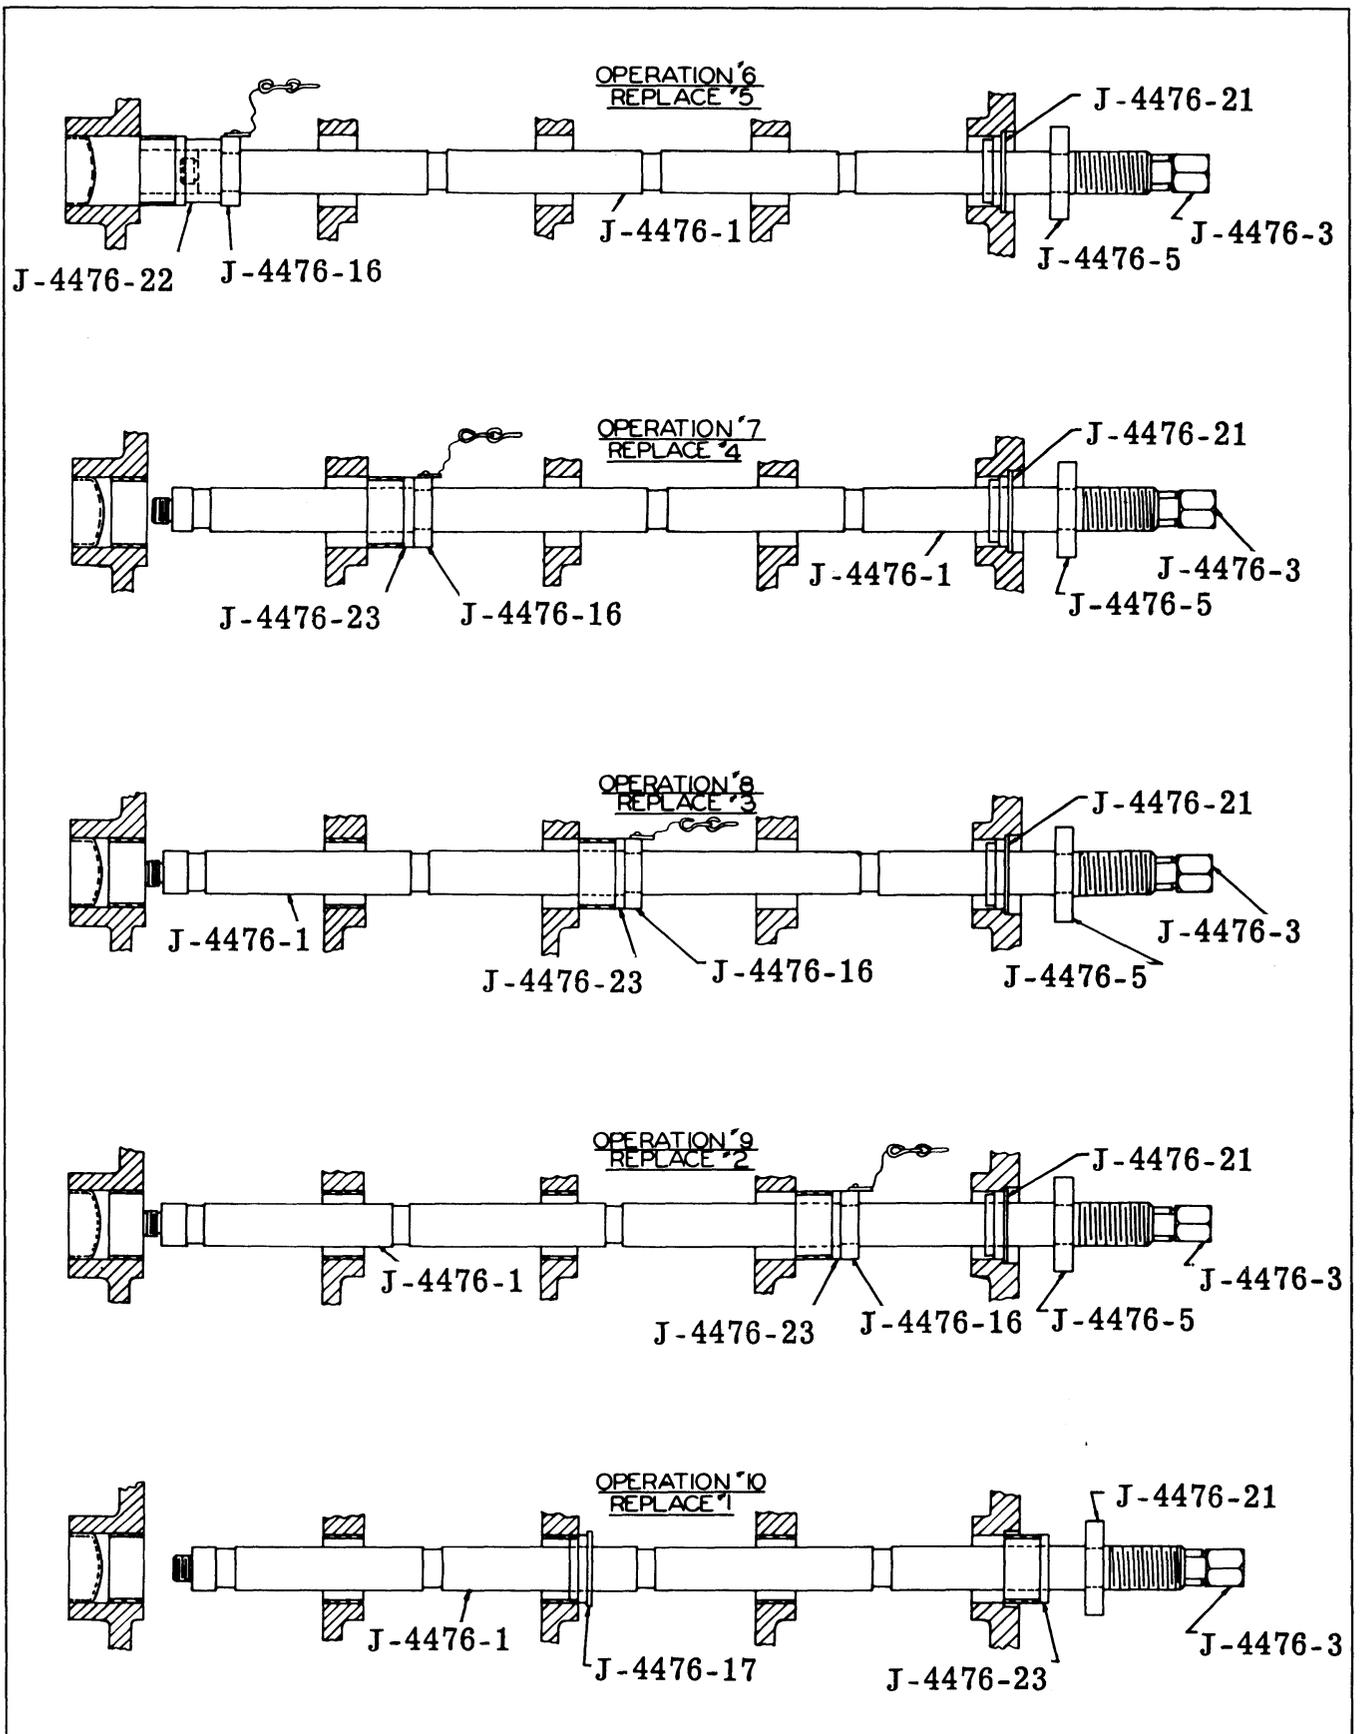

Fig. 8-46 Installation of Camshaft Bearings
**CAUTION:** Be sure step procedure as outlined in Fig. 8-46 is followed. If Tool J-4476-5 is mispositioned, it is possible to drive out the plug in rear of cylinder block. If the plug is loosened, flywheel removal will be required to install a new plug. The bearings are installed with the outside chamfer toward the rear of the engine. Start bearing so that the lower oil hole in bearing will align with the crankshaft to camshaft oil passage. Positioning the bearing seam toward top center of block will properly locate oil holes. After bearings are installed, check alignment of lower holes with a piece of wire and also check upper holes in No. 2 and 4 bearings which feed oil to rocker shafts.